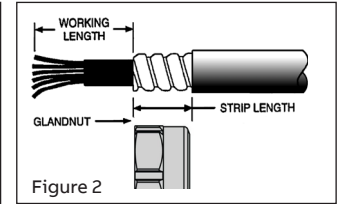

Figure 2
- When preparing cable, the strip length is the same as the length of the glandnut, refer to the table (Figure 2).